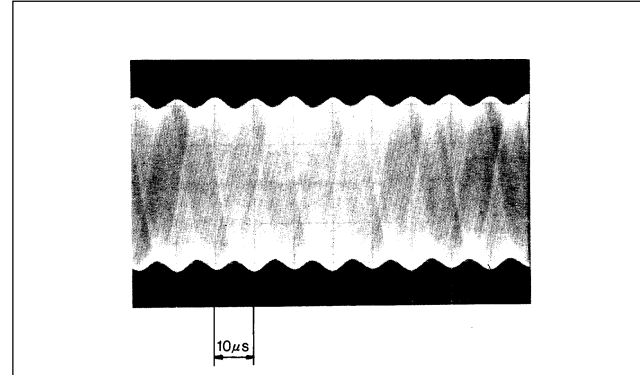

Fig. 4-9
- ⑤ When the RV1 volume is set near the center and the scale is moved, the waveform shown in Fig. 4-9 appears. At this point, adjust the RV3 volume to minimize the envelope ripple. Then, finely adjust the RV1 volume to minimize the envelope ripple.